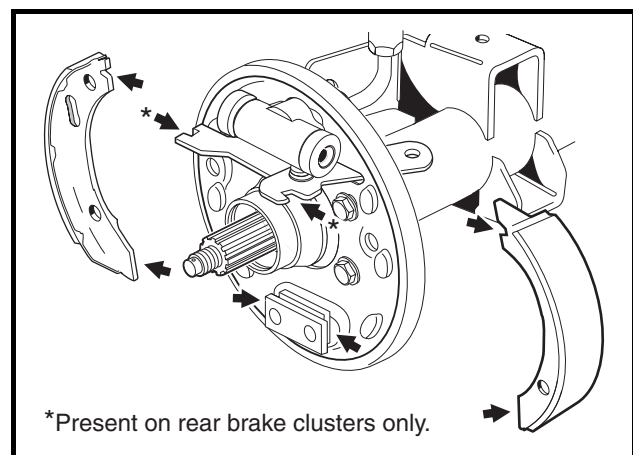

Figure 6-10 Lubricate Rear Brake Cluster
11. Brush a light coat of white lithium NLGI Number 2 grease (Dow Corning BR2-Plus or equivalent) to each end of both brake shoes and into the slots in the brake shoe mounting block. Apply grease to the notches in the mechanical park brake mechanism (**Figure 6-10, Page 6-11**). **See preceding WARNING.**